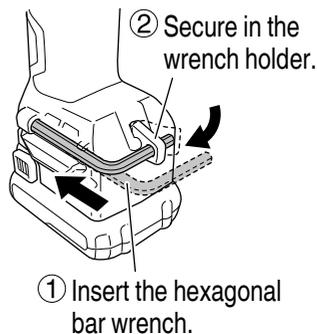

Fig. 12
7. Storing the hexagonal bar wrench (**Fig. 12**)